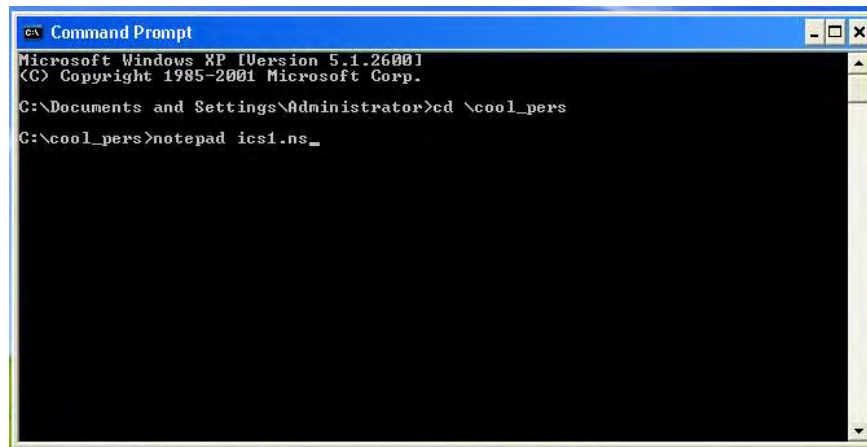

Figure 1-220. Start Notepad with ics1.ns
- c. A "cmd.exe" command popup window is displayed (Figure 1-220).